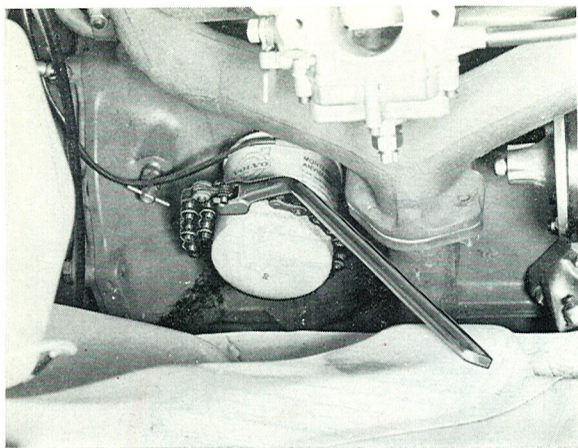

Fig. 2-55. Removing the oil filter
1. Remove the old filter with the help of chain tongs, see Fig. 2-55.